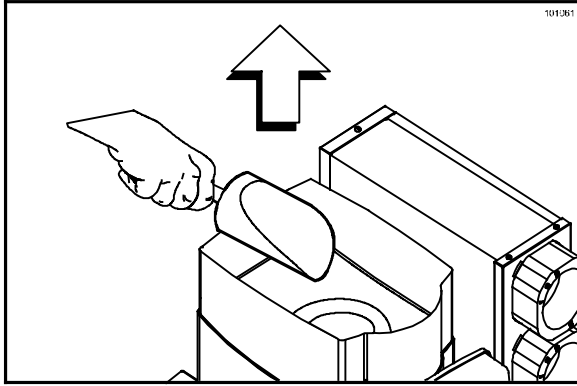

Figure 66
8. Remove the ice hopper cover. Scoop out as much ice as possible, using a clean, sanitized ice scoop. (See Figure 66.)